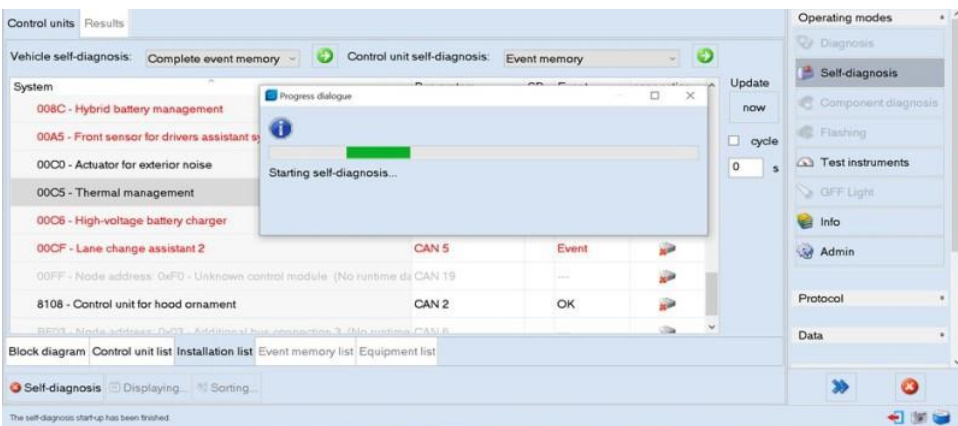

Figure 4
- Referring to Figure 4 - Identify Address C5 (Thermal Management control unit)